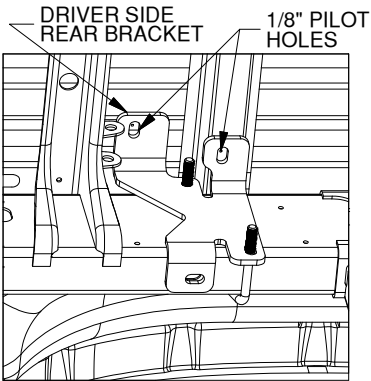
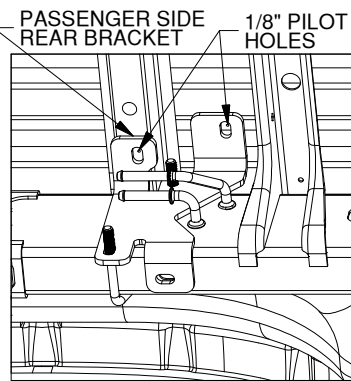

Figure A3: View looking up at the inside of driver side frame.
Figure A4: View looking up at the inside of passenger side frame.
3. **Check hole locations.** Locate the driver side rear frame bracket and a U-bolt. Position and hold the bracket flat against the inside of the frame where it will be installed, see Figure A3. Pass the U-bolt from the outside of the frame through the corresponding holes in the bracket. Check that the 1/8" pilot holes are centered within the slots in the frame brackets. If the 1/8" drilled holes are not centered within the slots, re-drill the 1/8" holes until the brackets and the drilled holes are aligned. Repeat the process for the passenger side using the passenger side rear bracket and a U-bolt, see Figure A4.